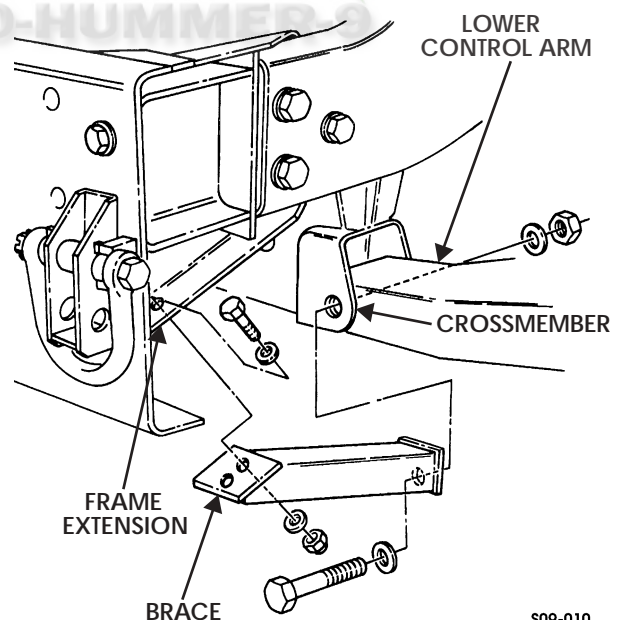

Figure 9-22: Front Suspension Brace for Vehicles With Winch
1. Remove two locknuts, washers, capscrews, and washers securing front suspension brace to frame extension. Discard locknuts (Figure 9-22).
1. Install brace on crossmember and lower control arm with washer, capscrew, washer, and locknut. Do not tighten locknut (Figure 9-22).